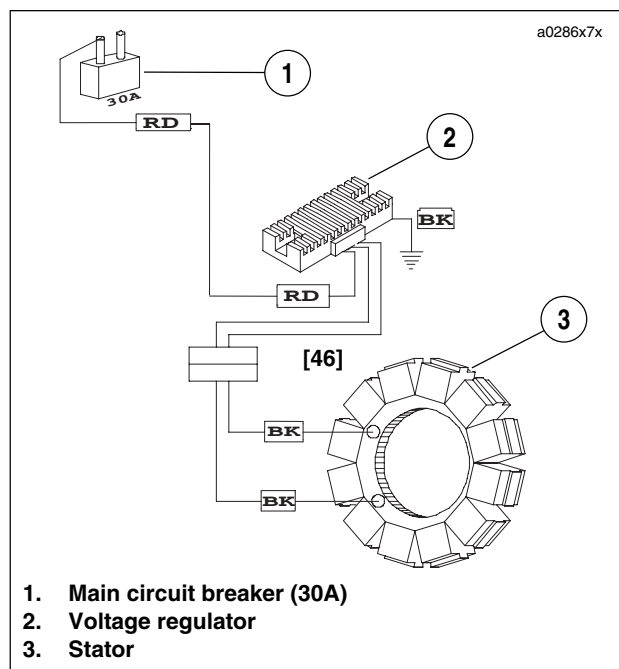

Figure 7-56. Voltage Regulator Connector [46]
3. See Figure 7-56. Locate voltage regulator connector [46] behind left footrest support. Disconnect from alternator stator wiring. Cut cable straps if necessary.